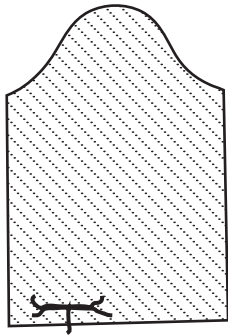

Figure 7
2. Reinforce the opening by stitching 1 in. on each side of the center along 5/8-in. seamline (Figure 7).